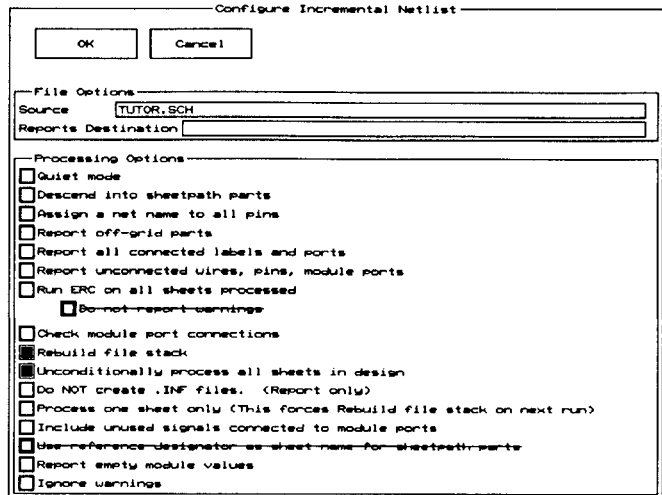

Figure 7-9. The *Configure Incremental Netlist* screen.
2. Select **Configure INET**. The **Configure Incremental Netlist** screen displays (figure 7-9).